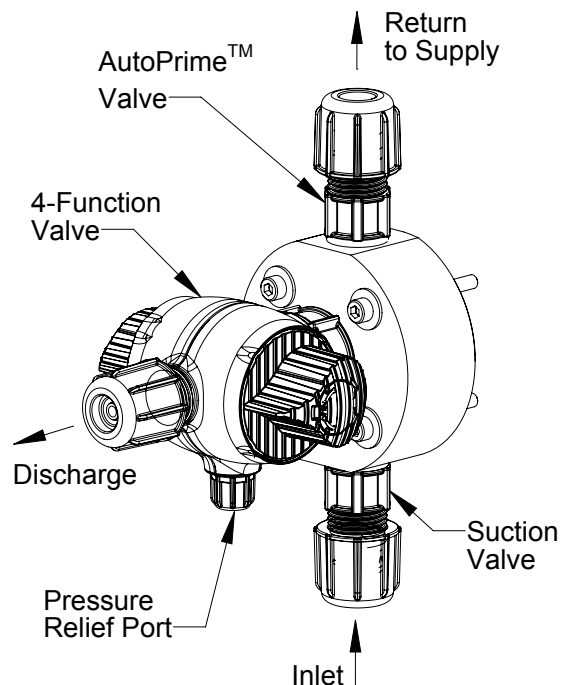

FIGURE 3
1. Connect pressure relief tubing to the pressure relief port (Figure 3). Route tubing to the solution tank. This tubing must not be submerged in the solution.